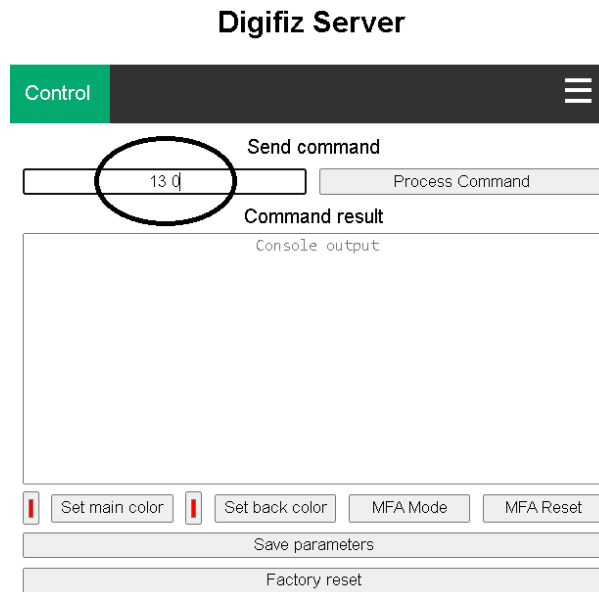

Figure 8.3: Example command sequence disabling automatic brightness.
The Control tab provides a command input line (1), a Process button (2), a result window (3), quick controls (4), a Save button (5), and a Reset button (6). Enter commands as space-separated pairs `<number> <value>` using integers only; punctuation and quotation marks are not required. Figure 8.3 illustrates the interface while toggling automatic brightness.